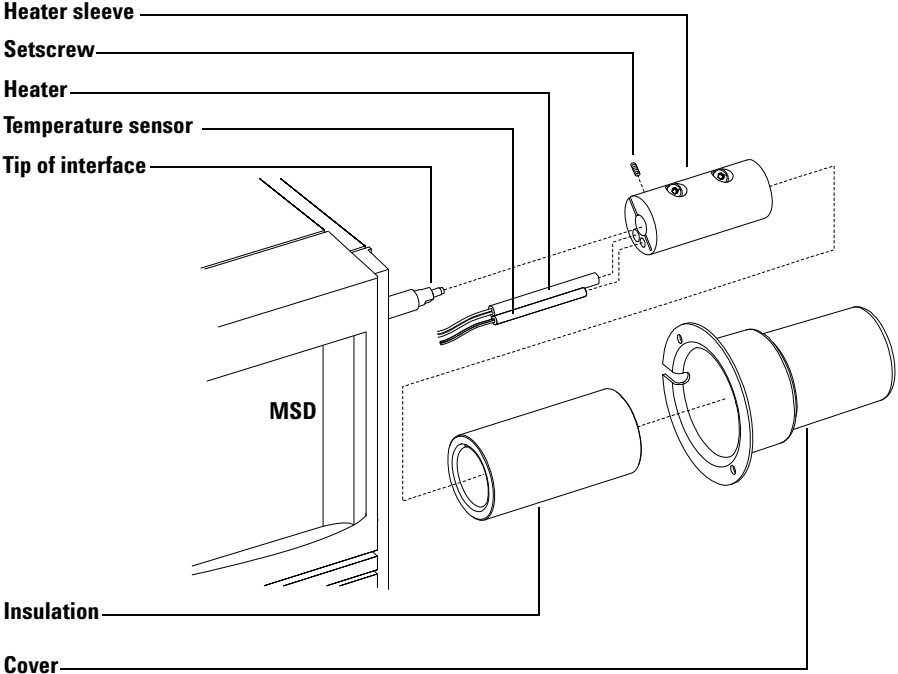

Figure 28 Replacing the GC/MSD interface heater and sensor
Rarely, the heater cartridge in the GC/MSD interface fails. In those cases, it is necessary to replace the heater and sensor. This section contains procedures for removing the heater and sensor and installing new ones. See Figure 28.
- 5 Slide the insulation off of the GC/MSD interface (Figure 28).
- 1 Slide the new heater and temperature sensor into the heater sleeve (Figure 28).